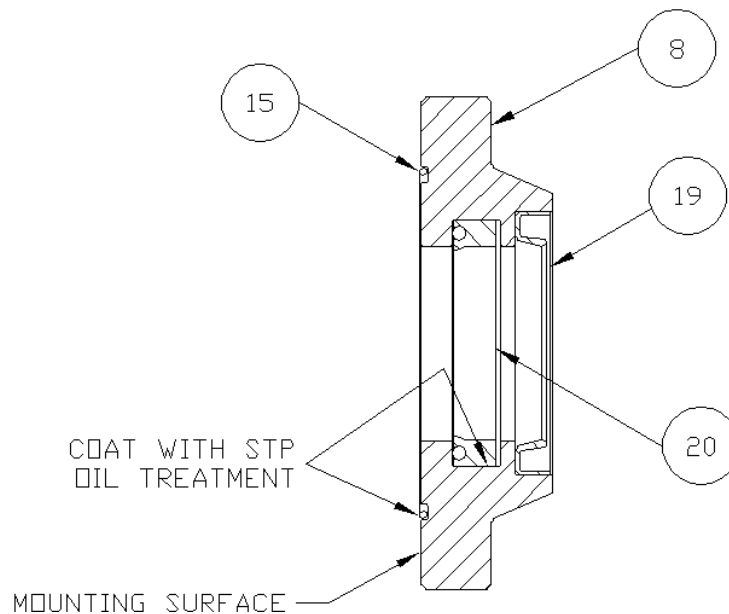

figure A-15
25. Thoroughly clean the bearing caps (8) (fig. A-15) with a mild solvent and lubricate all seal grooves with STP oil treatment. Place the bearing caps (8) on the table (mounting surface down) and install the wiper ring (19) in the outside groove using a rubber mallet or small press. ***(Avoid using tools that may damage seals or scratch bearing cap or bearing surfaces.)*** Turn the bearing cap (8) over. Collapse the pinion seal (20) and carefully work it into the groove. Use fingers to carefully press the seal completely into the groove as shown in figure A-15. ***Be careful not to score or scratch the sealing surface during the installation.*** Install the bearing cap seal (15) by pressing it firmly into the groove on the bearing cap mounting surface.
26. Coat the bearing cap seal area and pinion seal area shown in figure A-15 lightly with STP Oil Treatment.